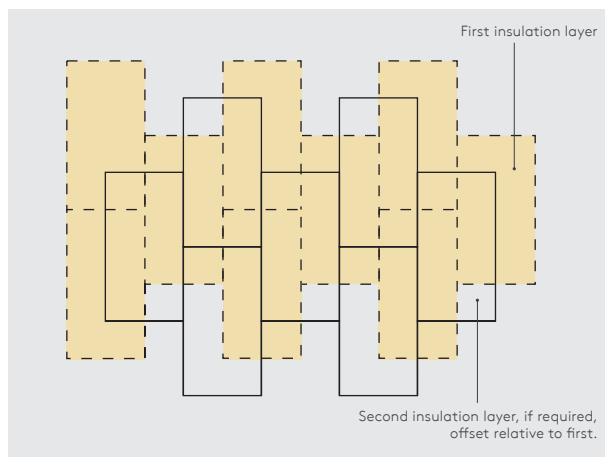

Figure 10 - Offsetting of multiple insulation layers
- If two layers of insulation are required, they should be horizontally offset relative to each other so that, as far as possible, the board joints in the two adjacent layers do coincide with each other (see Figure 10).
- If two layers of insulation are required, they should be horizontally offset relative to each other so that, as far as possible, the board joints in the two adjacent layers do not coincide with each other (see Figure 10).